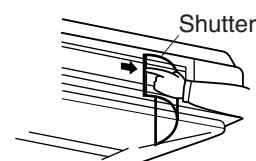

Fig. 6
- Air flow rate can be changed by sliding the shutter. (Refer to Fig. 6 and 7)